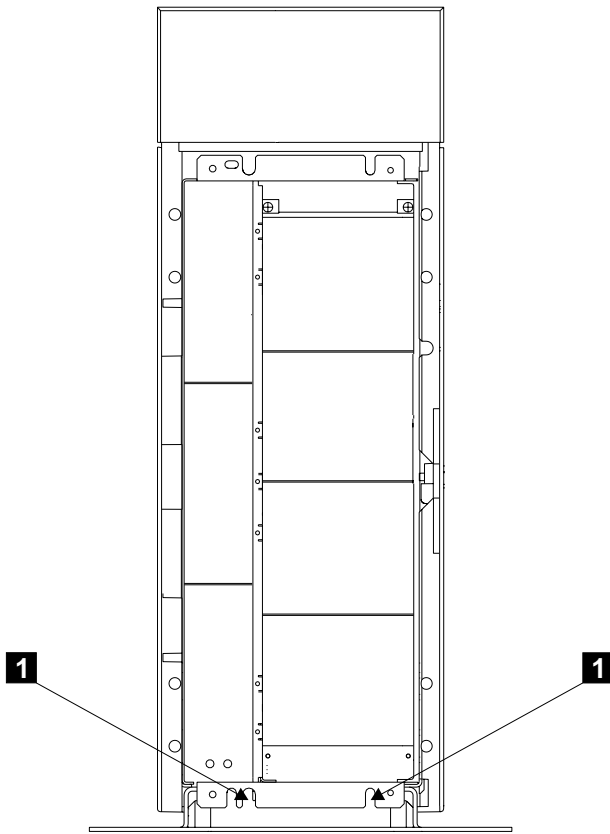

Figure 125. Removing the Frame from a Model T40 (1)
- Step 4. Refer to Figure 125.